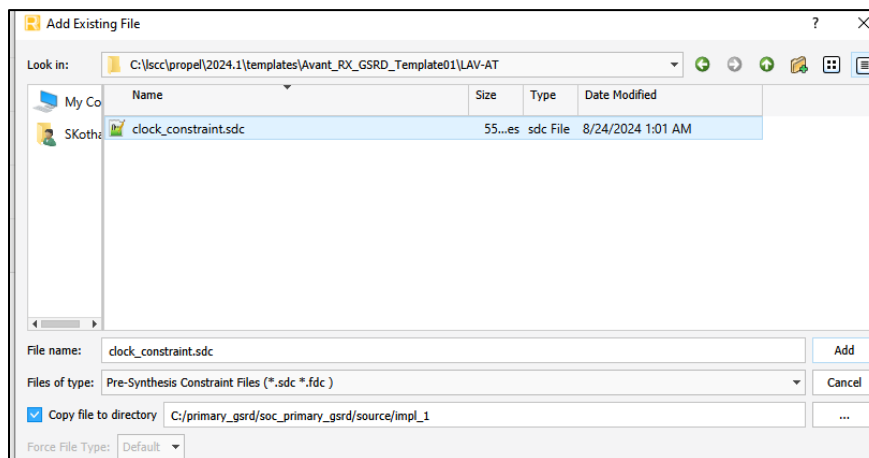

Figure 8.50. Select clock\_constraint.sdc File
6. Select the clock\_constraint.sdc and ensure that the *Copy File to Directory* is enabled as shown in Figure 8.50. Click **Add**.